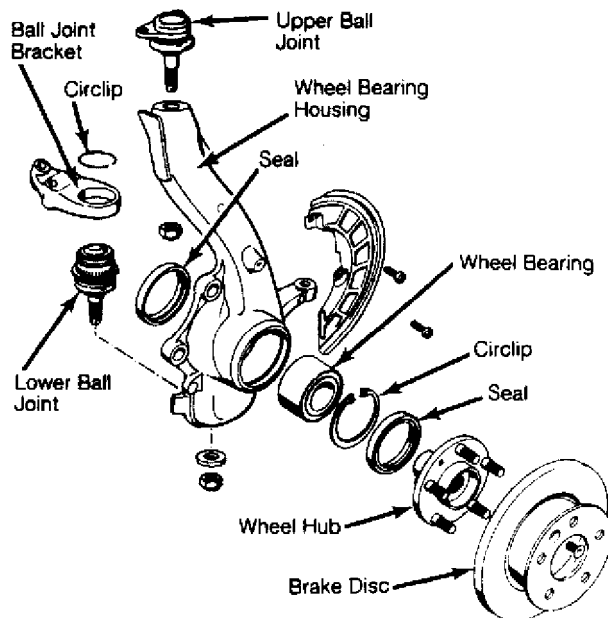

Fig. 5: Identifying Wheel Bearing Housing Components
2) Using Housing Supports (VW 401 and VW 415a), press wheel hub into bearing. To complete installation, reverse removal procedure. See Fig. 5.